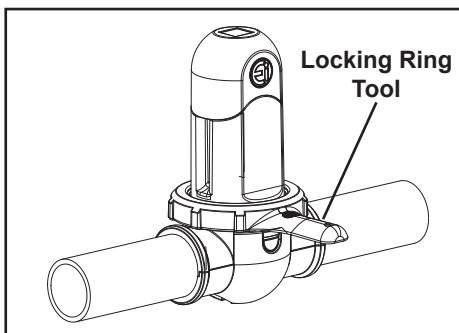

Figure 26. Undo Locking Ring
5. Undo the locking ring. If required, use the locking ring tool provided (see Figure 26).